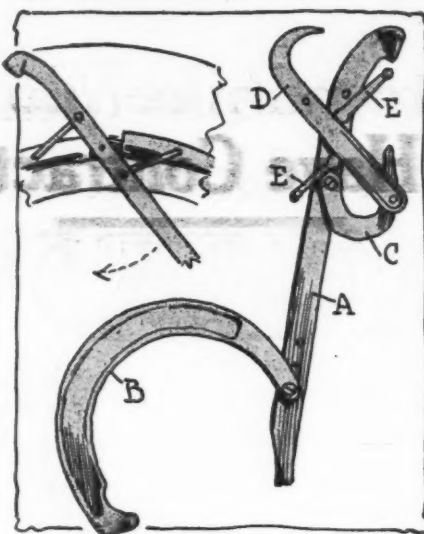

Fig. 3—Universal auto-tire remover
**Universal Auto-Tire Remover**—A tire tool in which are incorporated a number of special features that make it of wide application is shown in Fig. 3. The main parts A and B are used in the ordinary way for the purposes of removing and replacing tires or forcing over the outer ring of a quick detachable rim to expose the inner locking ring. In addition, a number of hooks and links C, D and E, are provided for a variety of uses, such as removing the binding ring and levering open the outer casing to facilitate the removal of the inner tube.